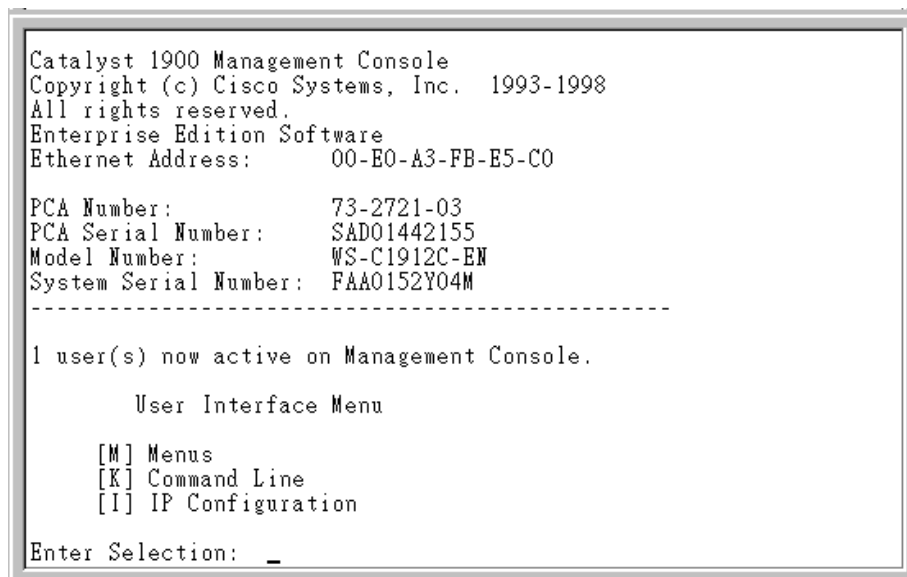

Figure 5-48 Catalyst 1900 Management Console Window
Step 9. Click OK and the Catalyst 1900 Management Console window of Figure 5-48 appears. If this window does not open, check the Port Settings on the COM1 port and verify cable connectivity.